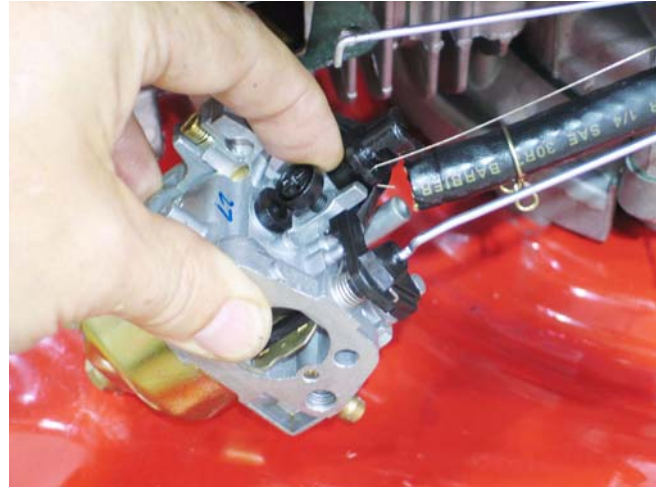

Figure 12.8
- 12.8. Remove the carburetor as described in the FUEL SYSTEM section of this manual. See Figure 12.8.